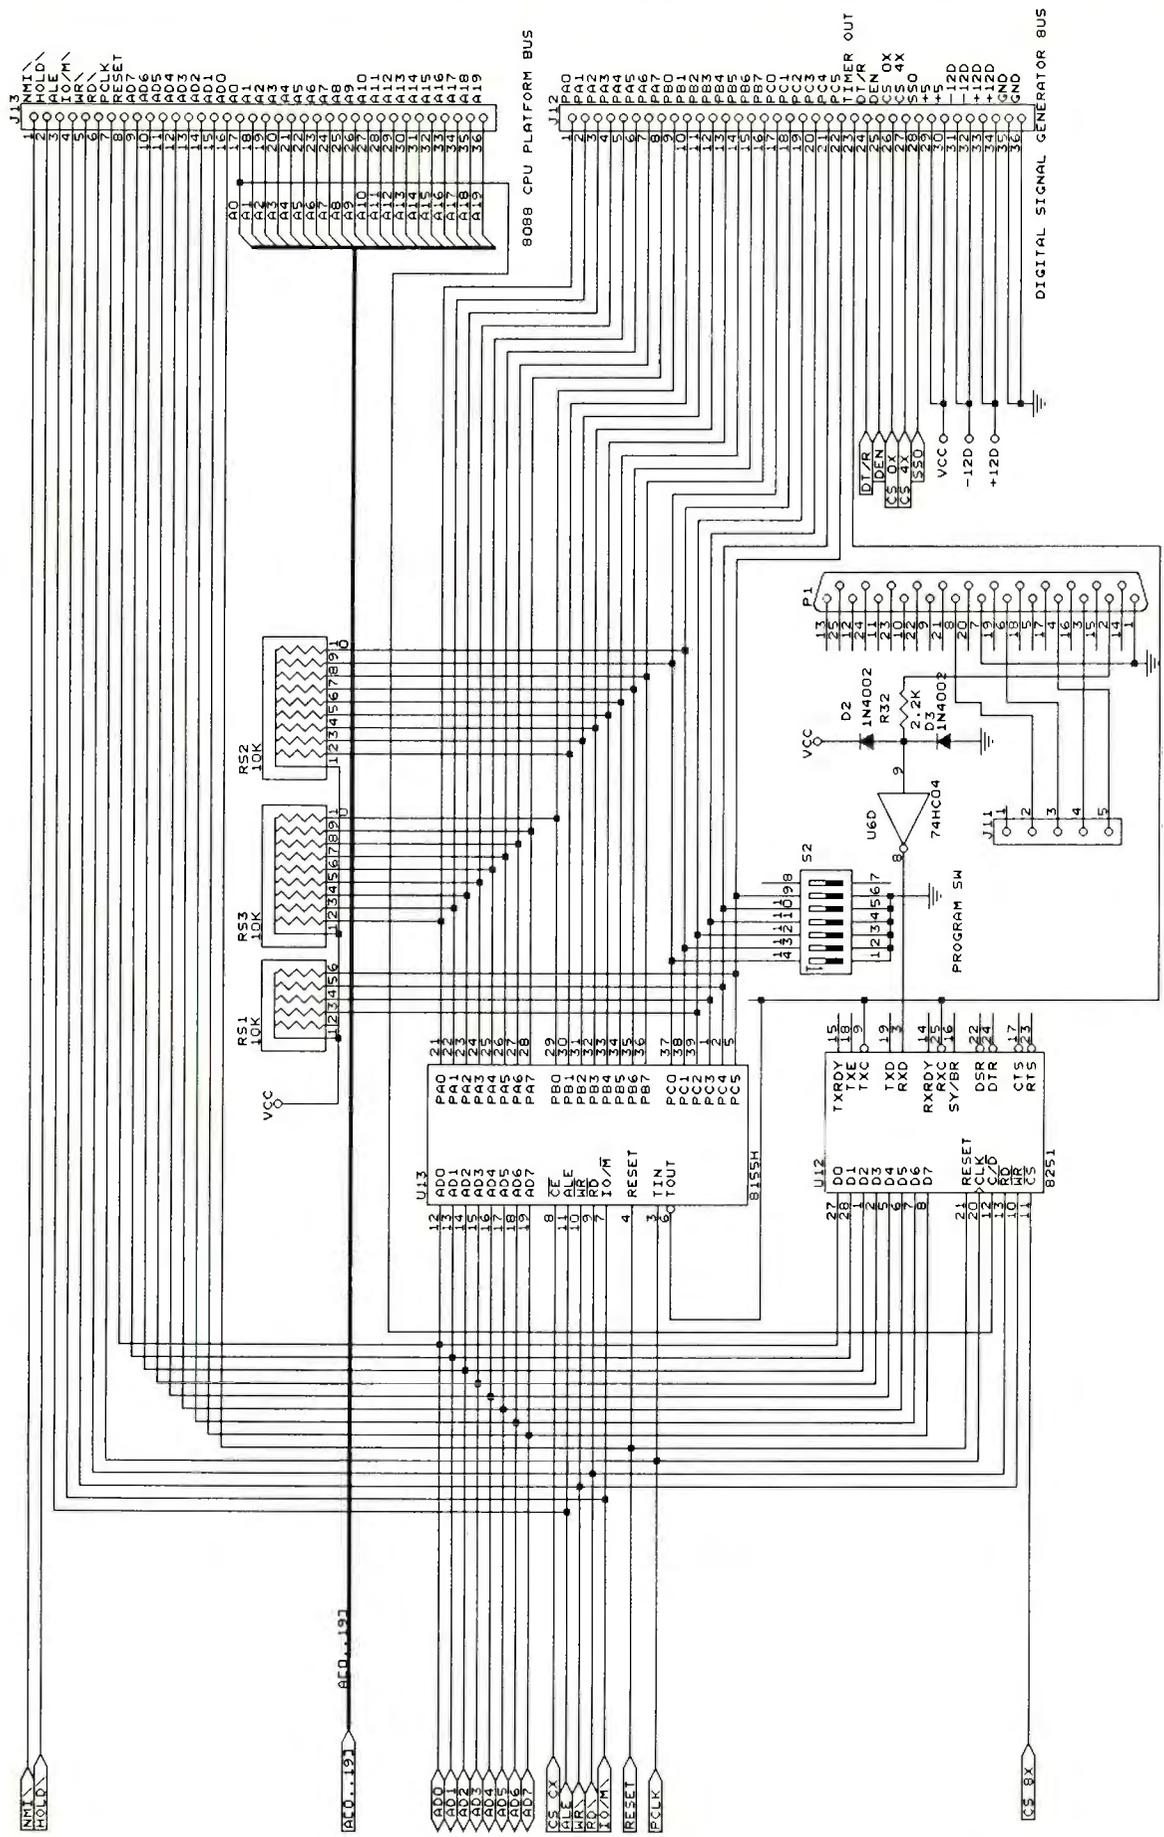

Fig. 2. Complete schematic diagram, minus dc power supply, for Digital Signal Generator add-on.
To generate the digital signal trains in the Digital Signal Generator add-on, an 8088 microprocessor, 8K of RAM, 8K of ROM, an 8155 I/O port/timer and the required support circuits are used. The circuitry for all this is shown schematically in Fig. 2(A) and Fig. 2(B). With this arrangement, digital signal trains are generated by toggling the U13 output port signals. The timer can be programmed to produce a variety of
- *Generator Bus*. The Digital Signal Generator bus consists of a 40-pin header that accepts 25-mil (0.025-inch) diameter wires. These wires connect directly to your prototyping station, as shown in Fig. 2(B).